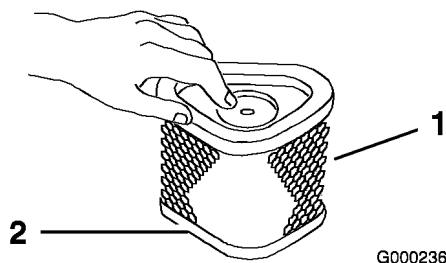

Figure 34
3. Put one or two ounces of oil on the element (Figure 34). Squeeze the element to distribute the oil.